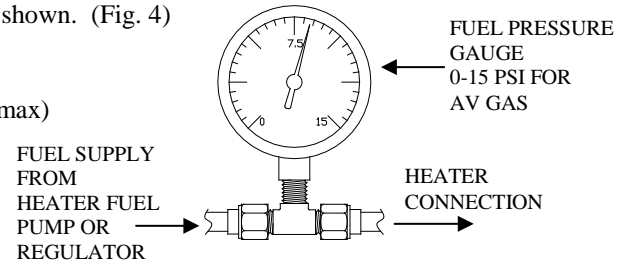

Figure 4
5.1.3 Install the fuel pressure gauge (0-15). Tee into as shown. (Fig. 4)